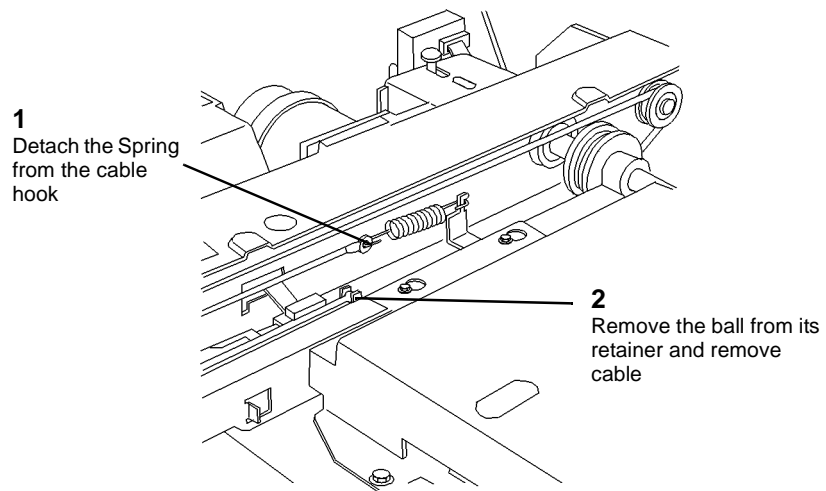

Figure 3 Removing Carriage Cable
7. Remove the Carriage Cable (Figure 3).